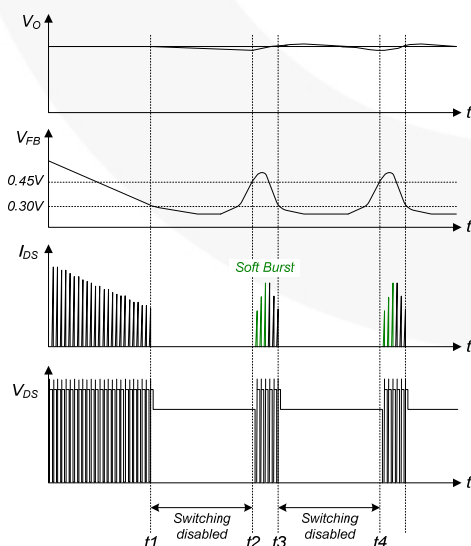

Figure 22. Burst-Mode Operation
5. Soft Burst-Mode Operation: To minimize power dissipation in Standby Mode, the FSL136MRT enters Burst-Mode operation. As the load decreases, the feedback voltage decreases. The device automatically enters Burst Mode when the feedback voltage drops below V_{BURL} (300mV), as shown in Figure 22. At this point, switching stops and the output voltages start to drop at a rate dependent on standby current load. This causes the feedback voltage to rise. Once it passes V_{BURH} (450mV), switching resumes. The feedback voltage then falls and the process repeats. Burst Mode alternately enables and disables switching of the SenseFET, reducing switching loss in Standby Mode.